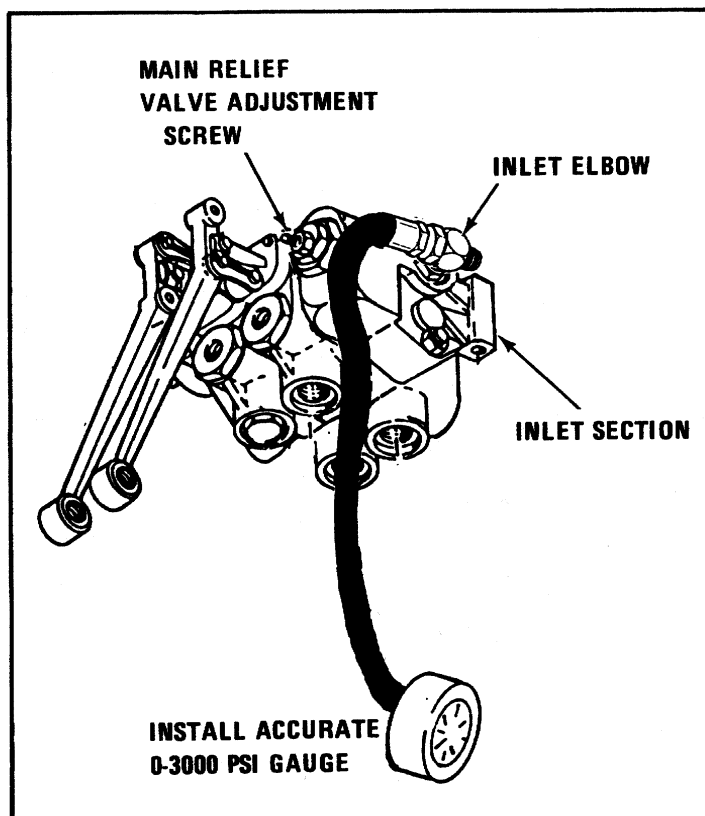

Figure 22B.
2. Install accurate 0-3000 PSI glycerine filled pressure gauge into 1/4" NPT port on elbow going into valve inlet section, see figure 22B.